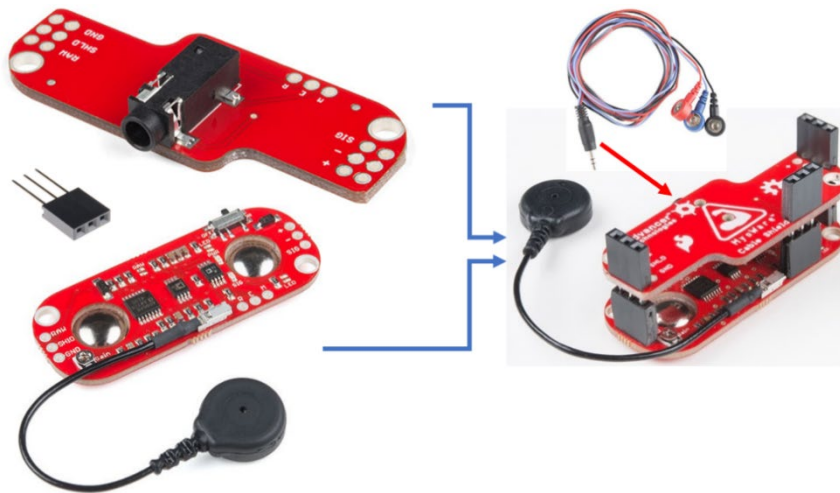

Fig. 14. EMG sensor stacked to a Cable Shield
- Connect the Arduino to your PC and upload the code depicted in (Fig.14). The code is designed to change the color of the integrated RGB in the Push Button.